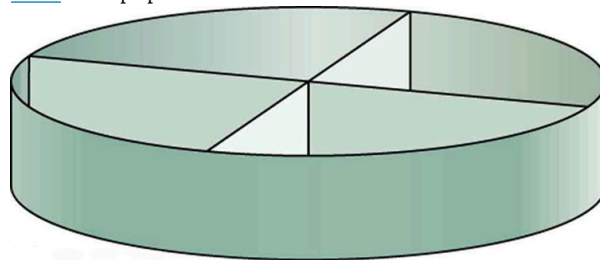

Figure 12.28 You will find devices such as this in many drains. They significantly increase flow rate.
27. Sink drains often have a device such as that shown in Figure 12.28 to help speed the flow of water. How does this work?